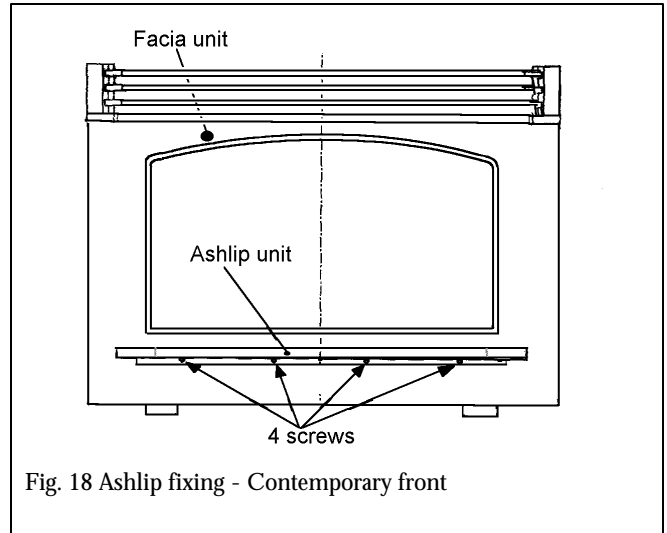

Fig. 18 Ashlip fixing - Contemporary front
15.1 Contemporary front only: Fit the ashlip to the fascia unit with 4 screws (see figure 18).